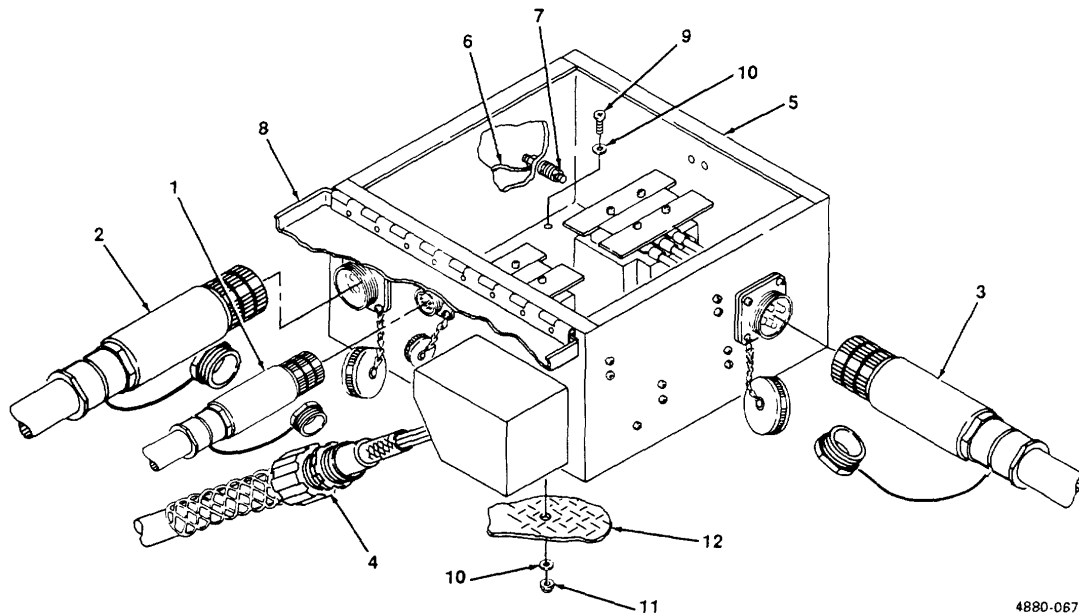

Figure 4-17. Power Distribution Unit Replacement.
4-26. Power Distribution Unit (PDU) Replacement . (See figure 4-17).
- (1) Disconnect control cable (1, figure 4-17), power/control cable (2) and auxiliary cable (3) from PDU connectors J1, J6 and J10. Replace connector covers on J1, J6 and J10.
- (2) Disconnect P3 power/control cable (4) from PDU (5) (paragraph 4-22).
- (3) Disconnect ground wire (6) from ground stud EI (7) on PDU (5).
- (4) Release cover latch and open PDU cover (8).
- (5) Remove four screws (9), eight flat washers (10) and four nuts (11) and remove PDU (5) from trailer forward floor plate (12).